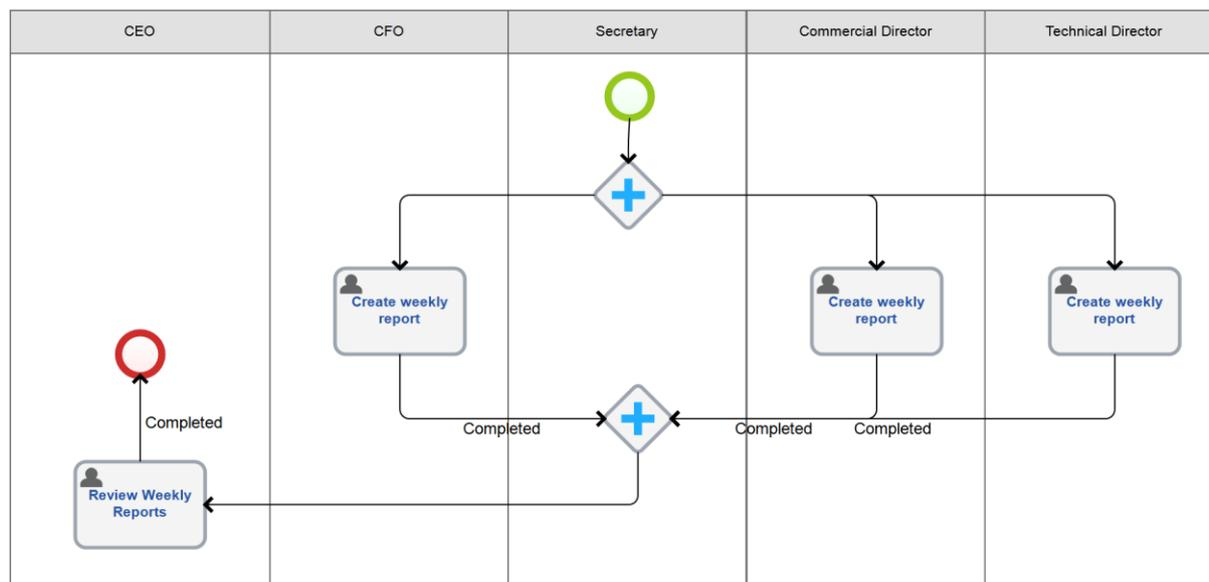

Fig. 133. The Weekly Reports of Managers process model
E.g., take a closer look at the **Weekly Reports of Managers** process. This process has the following description: every Monday, the Financial, Technical and Commercial Directors must send their weekly reports to the CEO for analysis. The process graphic model will look as follows (Fig. 133):
For the **Weekly Reports of Managers** process, configure escalation for the managers' tasks. According to the process model (Fig. 133) *all* the managers must complete their tasks (**Prepare Weekly Report**), before the system sends these reports to the CEO (**Review Weekly Reports**). Configure the connectors that will escalate the process if the **Prepare Weekly Report** task is not completed within 4 hours.